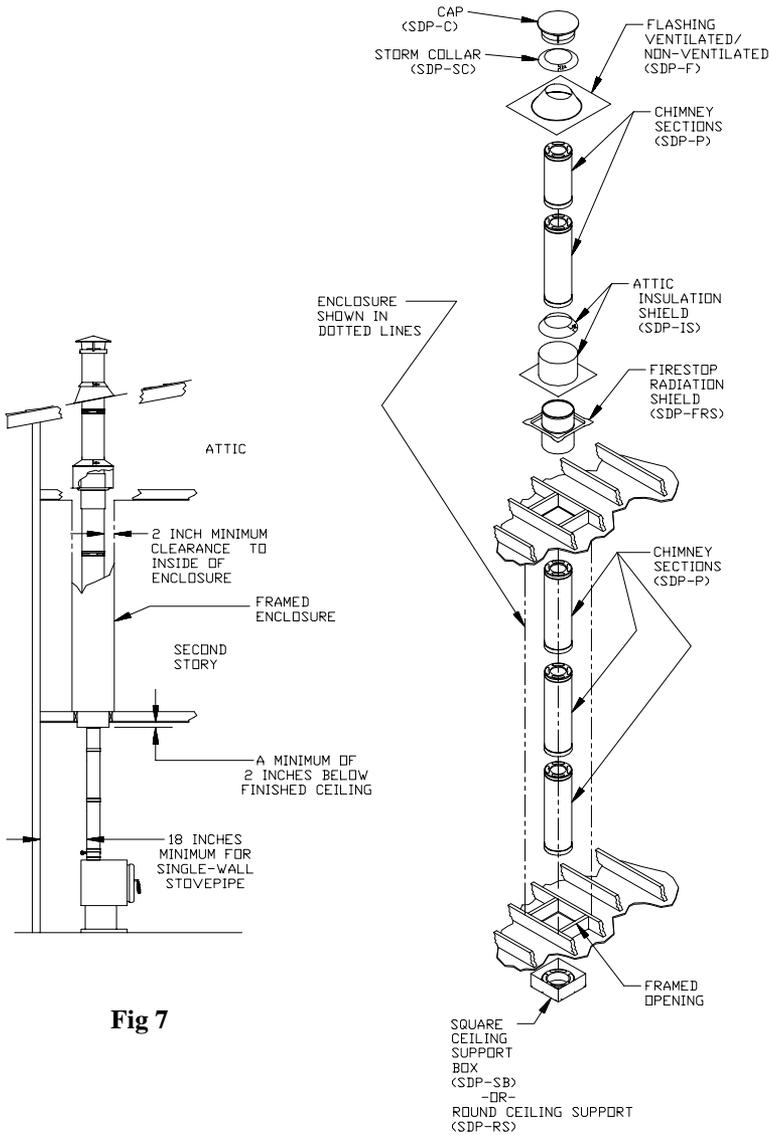

Fig 7
4. Frame Openings: Frame openings in each ceiling or floor above the **Support Box**. (Figure 7). These openings are to hold the **Firestop Radiation Shields** and **Attic Insulation Shields**. Locate each
6. Install Firestop Radiation Shield: One of two possible situations exist for installing the Firestop Radiation Shield. One is a two-story dwelling where the chimney passes through a **Firestop Radiation Shield**, a ceiling, and into an attic. The other is a multi-story building where the chimney passes through a **Firestop Radiation Shield**, through a ceiling, into another story, and then into an attic. Each of these require a different configuration of the **Firestop Radiation Shield**. Figure 7 illustrates the two-story building. In the case of the two-story installation, the base of the **Firestop Radiation Shield** is nailed
Chimney and Firestop Radiation Shield until the base sits squarely on the framed opening. (Figure 7).